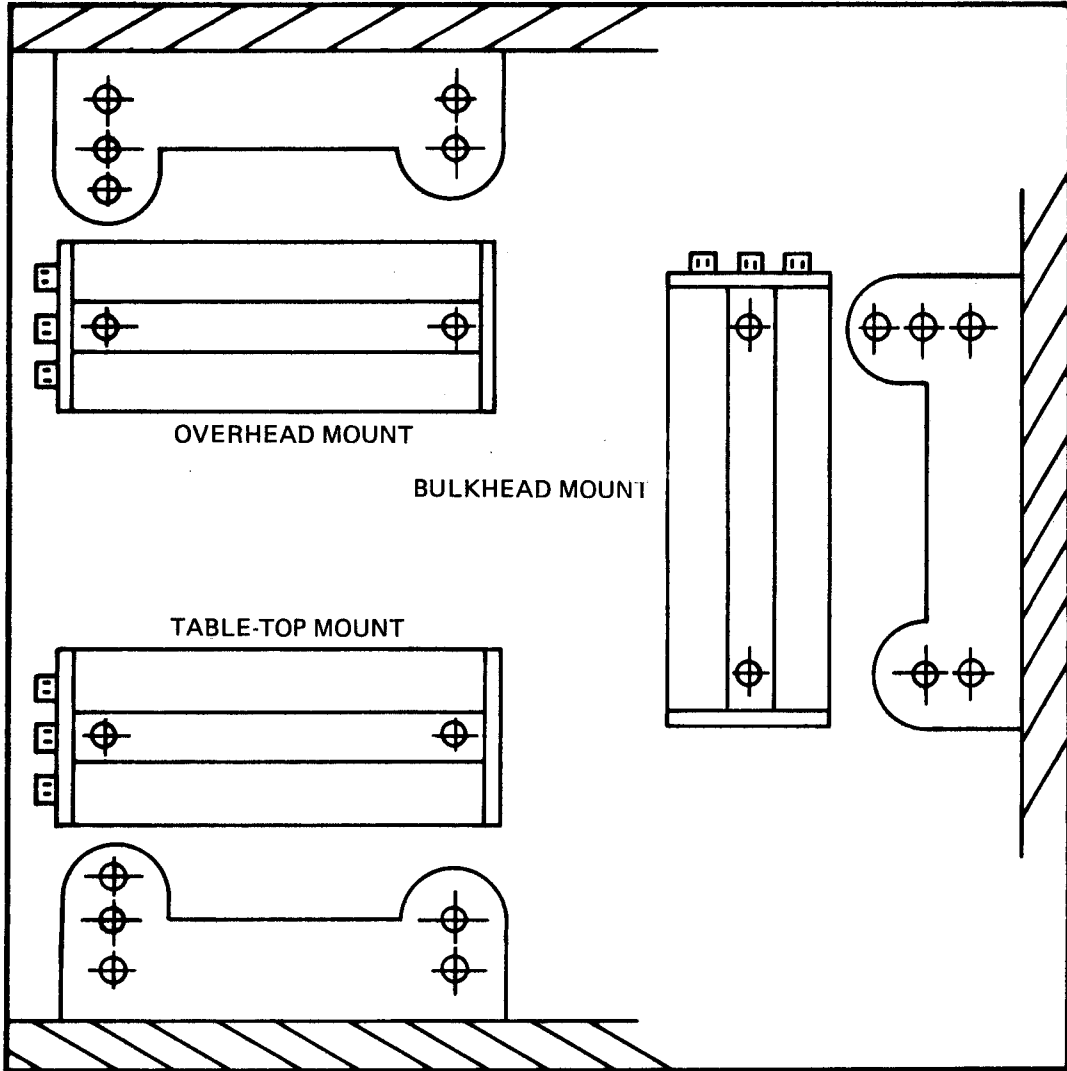

Figure 2-1. Receiver Mounting Positions
- (a) The receiver can be mounted in any orientation (Refer to figure 2-1).
2.5.3 Receiver Installation. - The receiver unit may be mounted in any convenient location or orientation, as shown in figure 2-1. (Refer to paragraph 2.2.3.) The mounting bracket should be used as a template for locating the mounting screws. The mounting bracket should then be secured to the mounting surface with No. 8 screws. While mounting the receiver is a simple and obvious task, installation instructions are required for interconnection of the receiver with the antenna and power source. The cables are supplied with only one end terminated and at standard lengths. The cables must be cut to the required length and connectors installed (where required) during direction finder installation.